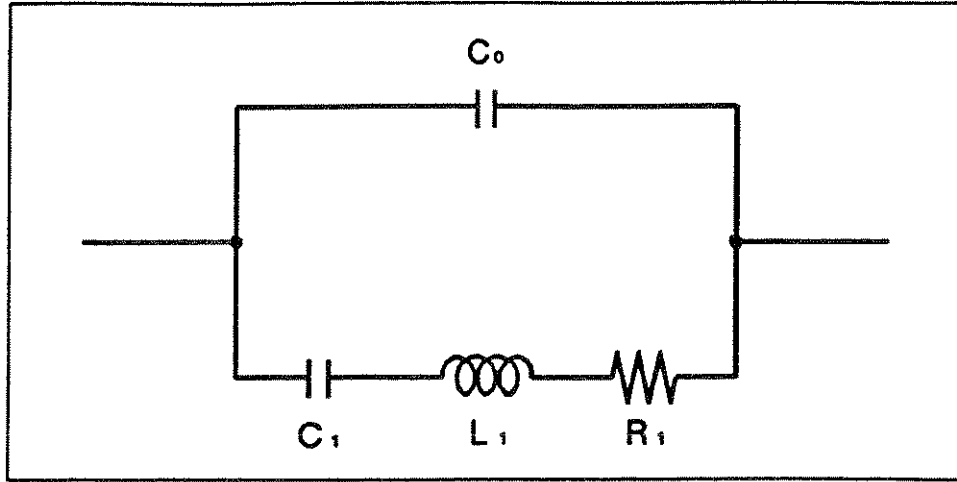

Figure 9-38. Four-Element Equivalent Circuit for Crystal Resonator
**EQUIVALENT CKT** (EQUCPARA?) derives four parameters for the equivalent circuit used for a crystal resonator, within the frequency range specified by **ANALY MIN** and **ANALY MAX**. The equivalent circuit is shown in Figure 9-38